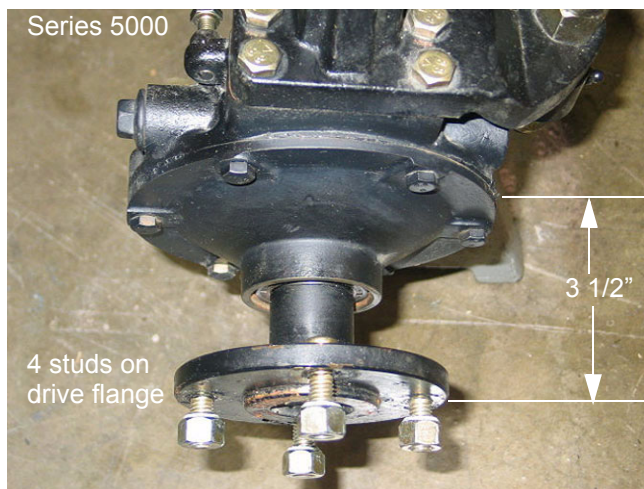

Figure 1.8
- 1.8. The Series 5000 MFD is wider than the Series 7000 MFD. The outside edge (measured at the top) of the axle flanges on the 5000 are 3 1/2" (8.9 cm) outboard of the seam where the axle cover meets the drop axle housing. See Figure 1.8.